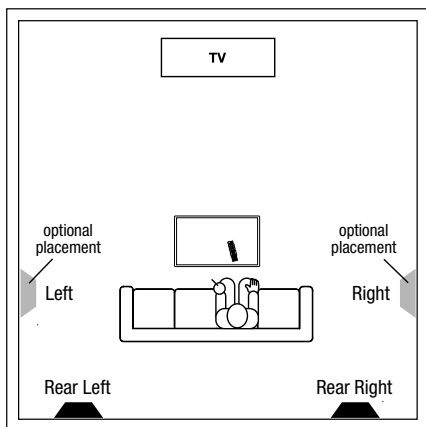

Figure 3. Two pairs of ProFX loudspeakers reproduce Dolby Surround EX® sound in a home theater room.
- *If your home theater system is capable of reproducing Dolby Surround EX® sound, consider using a second pair of StageFront FX loudspeakers (on the side walls) for an additional rear surround effect, as shown in **Figure 3**. Ideally, the side loudspeakers should be placed in-line with the listening position with the BIPOLE/DIPOLE controls set to DIPOLE. For a more focused surround effect, set the BIPOLE/DIPOLE controls to BIPOLE.*